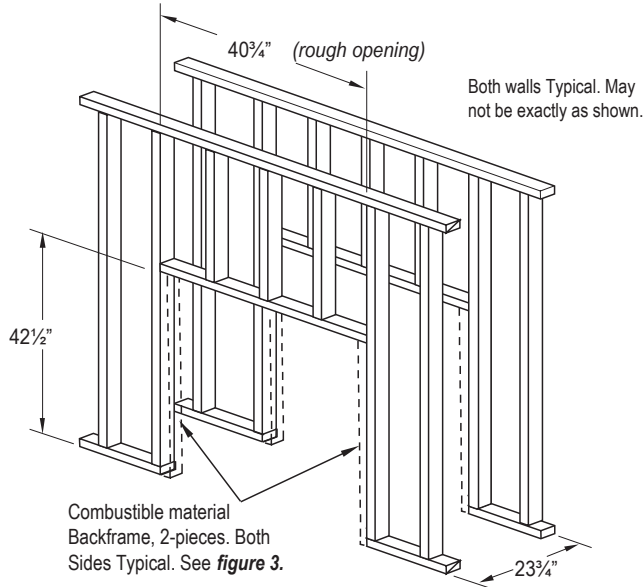

Figure 2. Framing dimensions, (Both Sides Typical).
- 1). Frame in the enclosure for the unit with framing materials. The framed opening for the assembled fireplace is $40\frac{3}{4}$ " wide, x $42\frac{1}{2}$ " high x $23\frac{3}{4}$ " deep, see Figure 2.